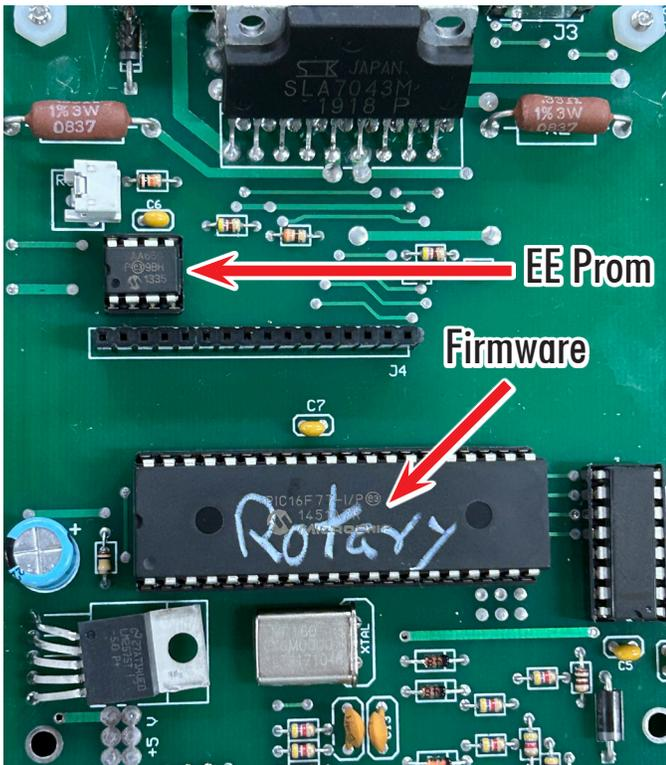

FIGURE 3—The red arrows show the locations of the EE Prom and Firmware chips.
5. Now you need to pry the Firmware Chip (see A and B below) and the EE Prom Memory Chip up and off the board by following the instructions for the DRO Chip Replacement (81705_dro_upgrade_inst.pdf) (see Figure 3).